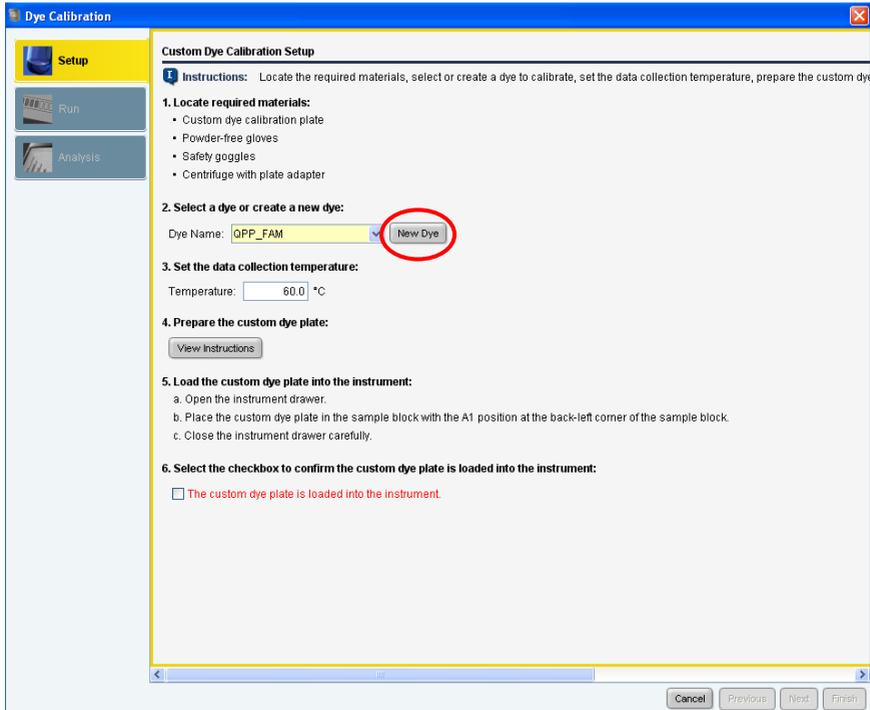

Figure 4. Selecting New Dye calibration.
4. Select **New Dye** in the **Dye Calibration** window (Figure 4).